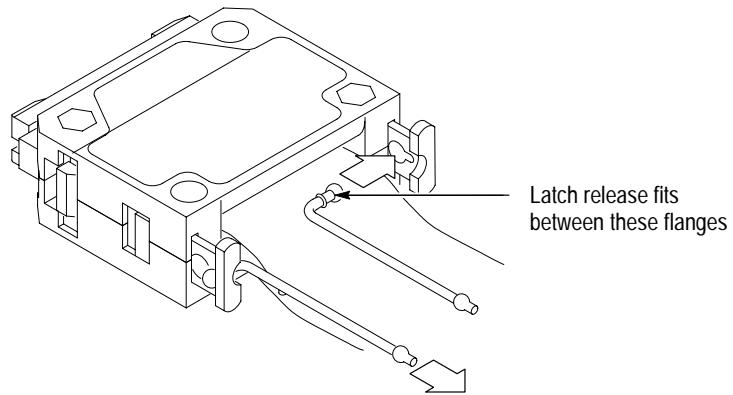

Figure 10: Reattaching the latch release cords to the latch releases
1. Place the latch release cords into the latch releases as shown in Figure 10.